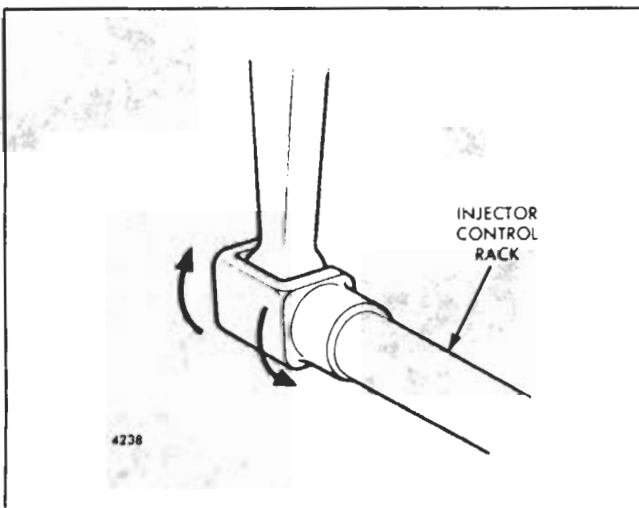
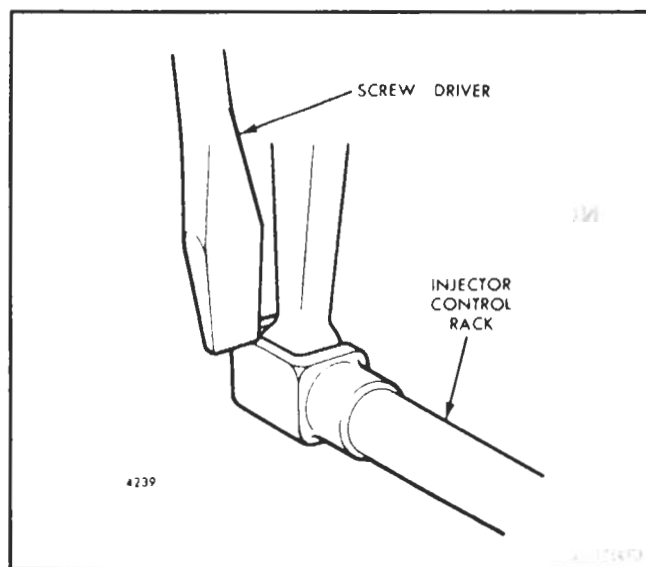

Fig. 3 - Checking Rotating Movement of Injector Control Rack
Fig. 4 - Checking Injector Control Rack "Spring"
5. To be sure of the proper rack adjustment, hold the stop lever in the run position and press down on the injector rack with a screw driver or finger tip and note the "rotating" movement of the injector control rack (Fig. 3) when the stop lever is in the run position. Hold the stop lever in the run position and, using a screw driver, press downward on the injector control rack. The rack should tilt downward (Fig. 4) and, when the pressure of the screw driver is released, the control rack should "spring" back upward.